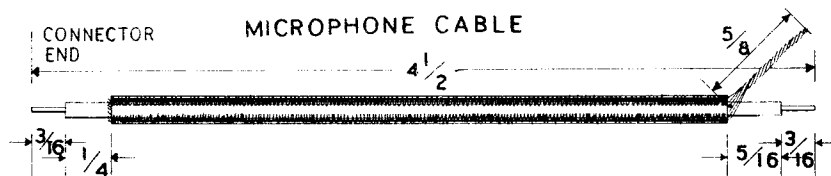

Figure 10
- () Cut the piece of microphone cable to 4 1/2" and strip the leads as shown in Figure 10. (Do not confuse this cable with coax cable shown in Figure 11.)
- () On the other end, the outside shield lead connects to #2 on CC (NS). The center conductor connects to #3 on CC (NS). See Pictorial 2.
- () Trim the leads on the 4700Ω (yellow-violet-red) 1/2 watt resistor to 3/8" and connect one end to #1 on CC (NS) and the other end to #3 on CC (S-2).